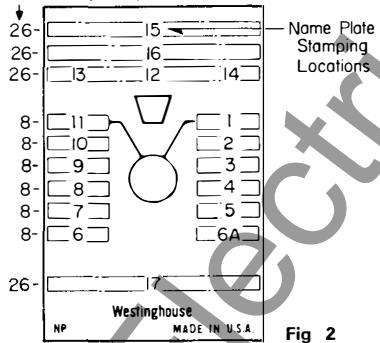

Fig. 2
- NP 502A054H02 (Fixed Handle with Target) Fig. 2
Example: Figure 2 – NP 502A054H02